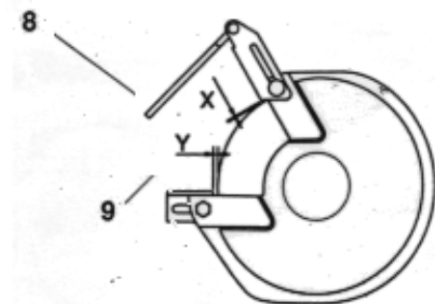

fig. 1
- * **Never use the machine without the appropriate protection devices**, which must never exceed the distances indicated below. These, therefore, must always be reset as and when the wheel becomes worn, registering the position of the protective screen holder and of the support (fig. 1) so as to maintain the minimum distance required at all times:
- distance (X) between the protective screen holder and the wheel = max. 5 mm.
- distance (Y) between the positioning supports and the grinding device = max. 2 mm.